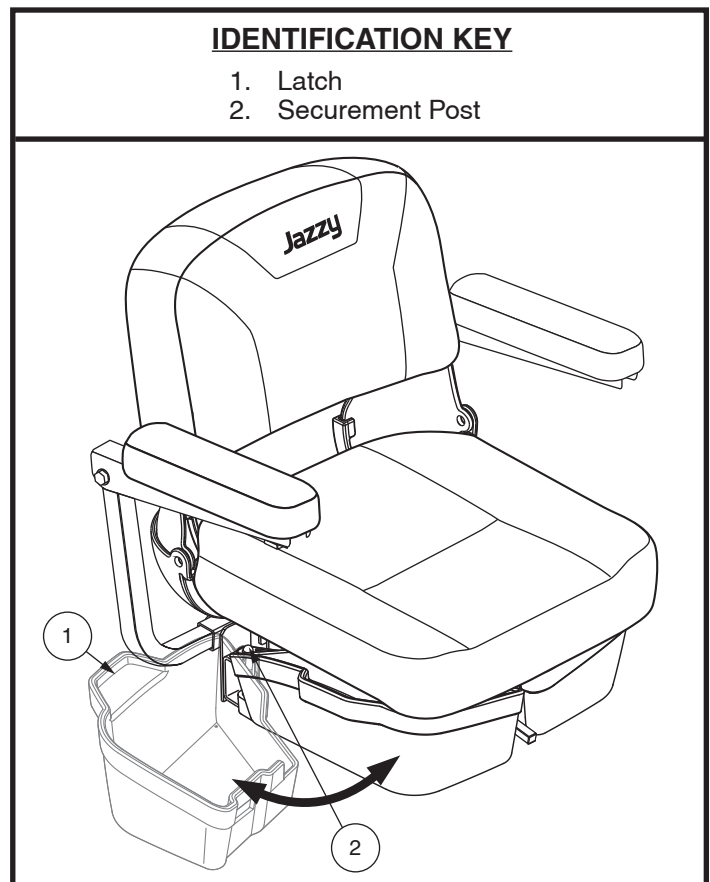

Figure 31. Under-seat Storage
1. Lift up slightly on the latch on the side of the under-seat storage bin (see figure 31) and swing the under-seat storage bin out and away from the Travel Scooter.
1. Lift up slightly on the latch on the side of the under-seat storage bin (see figure 31) and swing the under-seat storage bin out and away from the travel scooter until it is fully open.
2. If equipped, remove under-seat storage. See **Figure 31**.
7. If equipped, install under-seat storage. See figure 31.